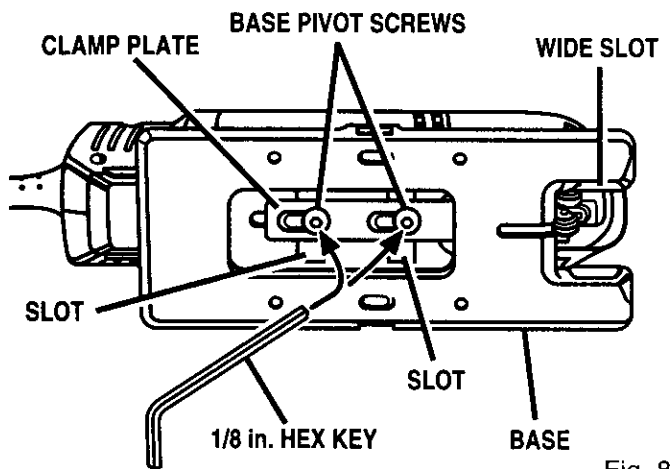

Fig. 8
See Figures 8 and 9.
- Slide base forward slightly until base pivot screws can move freely in slots in base. See Figure 8.
Note: Clamp plate should always be in full rear position, as shown in Figure 8, unless vacuum attachment is in use.